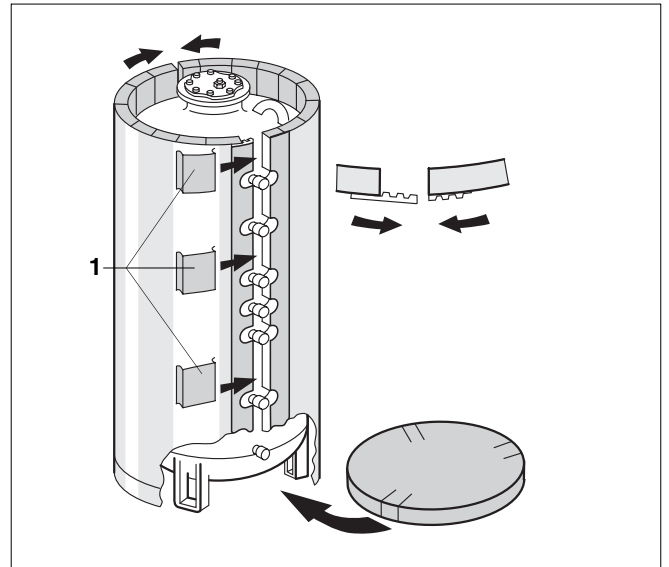

Fig. 10 Position thermal insulating disk and thermal insulating jackets
First attach the sealing strip to the connection lines and secure with installation aid (U-bar) (Fig. 10, **Item 1**) if necessary.
- Place slotted thermal insulating disk on the floor with the slots near the tank feet (Fig. 10).
- Place the perforated thermal insulating jackets around the tank so the holes fit the connections (Fig. 10).
- Pull the ends of the thermal insulating jackets together and close them (Fig. 10).